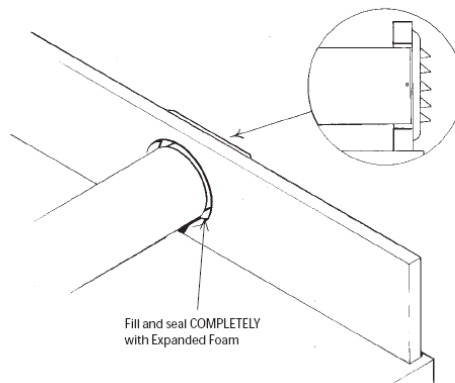

Figure 13
Determine outlet locations. Cut correct size hole. Cut a short piece of 6" round duct to connect to the fresh air inlet and exhaust air outlet hoods. For Model *ERVR100 or *ERVR200. Use 8" round duct for Model *ERVR300. Secure duct to inlet and outlet hood duct collars with installer supplied fasteners. Install hood and ductwork through penetration. See figure 13 for sealing duct penetration and duct collar.
3. The two wires from the ERV should be attached to the 'C' and 'R' positions on the terminal block on the back of the PT Control. See Figure 13.